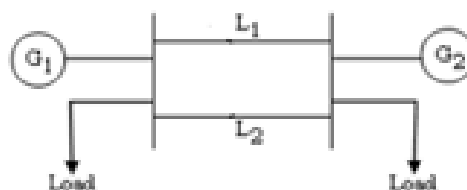

fig 1 Power System
2. a) A power system is shown in fig.1, the reactance of each [6M]
4. a) Fig 1 shows the one-line diagram of a simple three-bus system with generation at bus 1. The magnitude of voltage at bus 1 is adjusted to 1.05 p.u. The scheduled loads at buses 2 and 3 are as marked on the diagram. Line impedances are marked in p.u on a 100MVA base and the line charging susceptances are neglected. [8M]
fig 1 one-line diagram (impedances in p.u on 100MVA base)